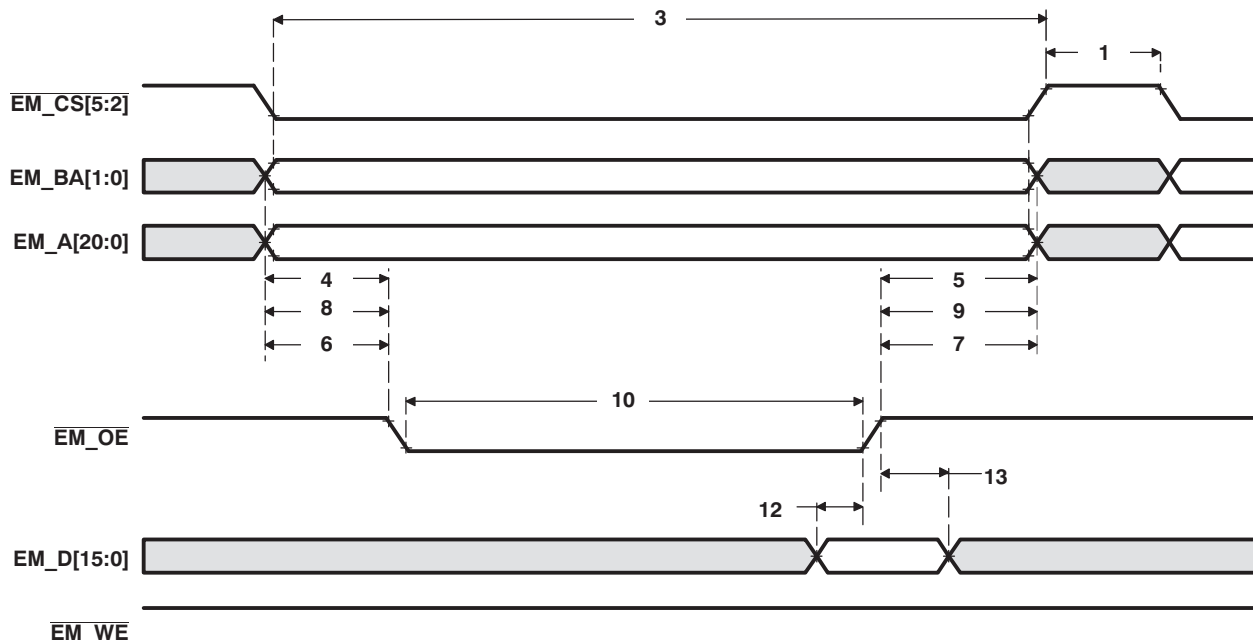
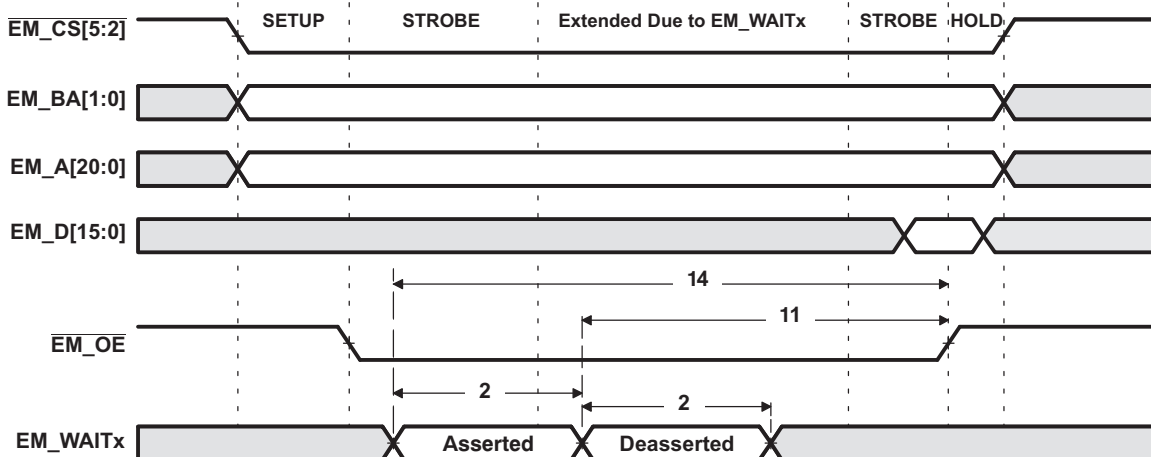
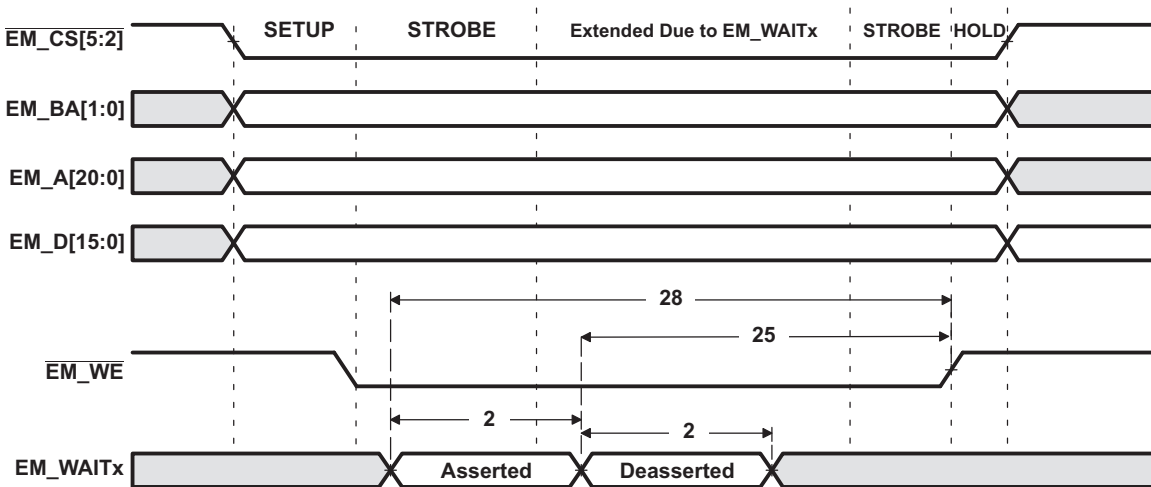

Figure 5-15. Asynchronous Memory Read Timing for EMIF
Figure 5-17. EM_WAITx Read Timing Requirements
Figure 5-18. EM_WAITx Write Timing Requirements
Table 5-16. Timing Requirements for EMIF Asynchronous Memory⁽¹⁾ (see Figure 5-15, Figure 5-17, and Figure 5-18)
- (1) E = SYSCLK period in ns, if EMIF is set for "full rate" **or** E = SYSCLK/2 period in ns, if EMIF is set for "half rate" as defined by bit 14 of the EMIF Status register (0x1001h). For example, when EMIF is set to full rate and SYSCLK is selected and set to 100/120 MHz, E = 10/8.33 ns, respectively.
- (2) Setup before end of STROBE phase (if no extended wait states are inserted) by which EM_WAITx must be asserted to add extended wait states. Figure 5-17 and Figure 5-18 describe EMIF transactions that include extended wait states inserted during the STROBE phase. However, cycles inserted as part of this extended wait period should not be counted; the 4E requirement is to the start of where the HOLD phase would begin if there were no extended wait cycles.
Table 5-17. Switching Characteristics Over Recommended Operating Conditions for EMIF Asynchronous Memory^{(1) (2) (3)} (see Figure 5-15, Figure 5-17, and Figure 5-18)
Table 5-17. Switching Characteristics Over Recommended Operating Conditions for EMIF Asynchronous Memory ⁽¹⁾ ⁽²⁾ ⁽³⁾ (see Figure 5-15 , Figure 5-17 , and Figure 5-18) (continued)